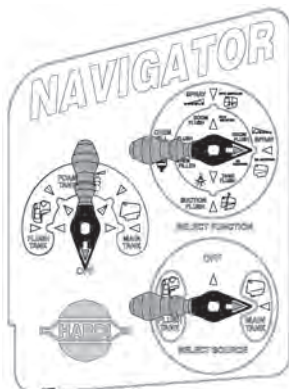

Fig 49
For the last stages of spraying, turn the SELECT FUNCTION handle towards SPRAY NO AGITATION (Fig 49).
- 1 Turn SELECT FUNCTION to SPRAY NO AGITATION, and SELECT SOURCE to MAIN TANK (Fig49). Spray until air comes out of all nozzles.